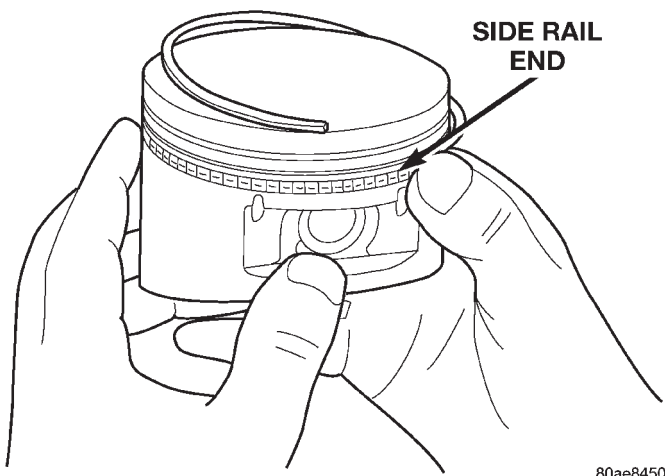

Fig. 10 Side Rail—Installation
- (2) Oil ring expander.
- (3) Upper oil ring side rail.
- (4) Lower oil ring side rail.
- (5) No. 2 Intermediate piston ring.
- (6) No. 1 Upper piston ring.
- (7) Install the side rail by placing one end between the piston ring groove and the expander. Hold end firmly and press down the portion to be installed until side rail is in position. **Do not use a piston ring expander during this step (Fig. 10).**